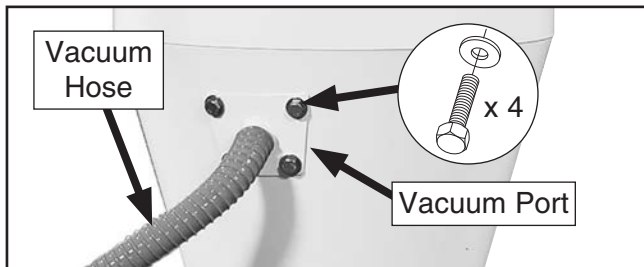

Figure 18. Cyclone vacuum tube and hose attachment.
21. Attach vacuum port to cyclone funnel with (4) $\frac{5}{16}$ "-18 x $\frac{3}{4}$ " hex bolts and $\frac{5}{16}$ " flat washers (see **Figure 18**).
22. Attach vacuum hose to cyclone vacuum port and secure with (1) $1\frac{1}{4}$ " hose clamp (see **Figure 18**).